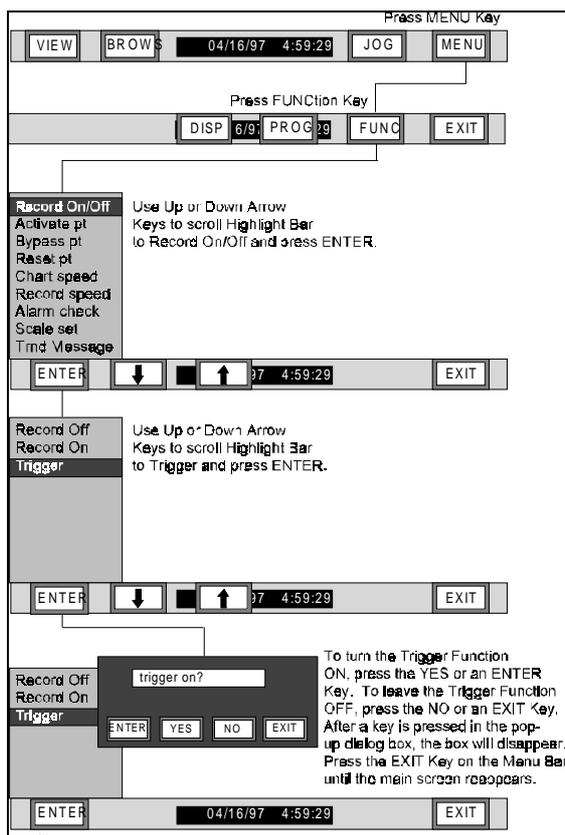

Figure 3-32 Turn Trigger Mode to ON Flow Chart
3. Trigger - Selecting Trigger will arm the unit to record when an external or internal event takes place. Internal Record-On-Alarm Triggers are set in the Record Setup menu while External Event Triggers are set in the Digital Input/Output Setup menu under the PROGRAM Button. If the Recorder is set in the record TRIGGER mode, either of these event triggers will control the Record ON or Record OFF function depending on whether the events are active or inactive. To set the Record Mode to Trigger, perform the following steps and refer to Figure 3-32: